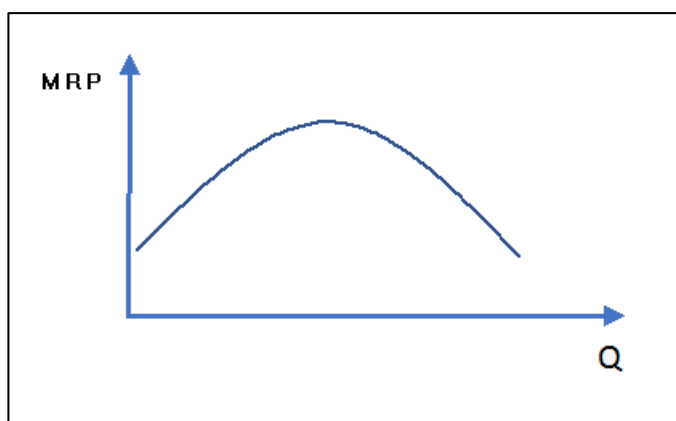

Figure 339: theoretical relation between MRP and Q
- To improve the MRP, adjust the quadrupole before the magnetic sector by adjusting Q value via the keyboard. For each detector, there is a Q value that will optimize the MRP (Figure 339). Q may vary depending on the detector's position in the multicollection chambers. If Q varies from one detector to another, find the best compromise: either an average Q that gives similar peak shapes to all detectors, or a Q that would favor the peaks showing interferences, where it is most critical to have a good MRP.